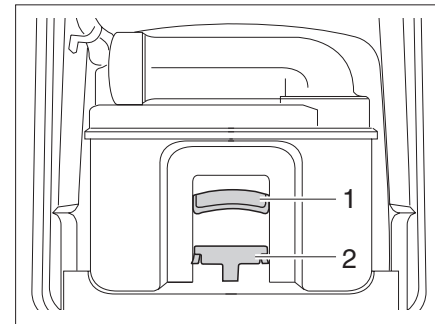

Fig. 133 Thetford cassette
- Pull the retaining clip (Fig. 133,2) forward to unlock the toilet cassette and pull out the cassette at the handle (Fig. 133,1).